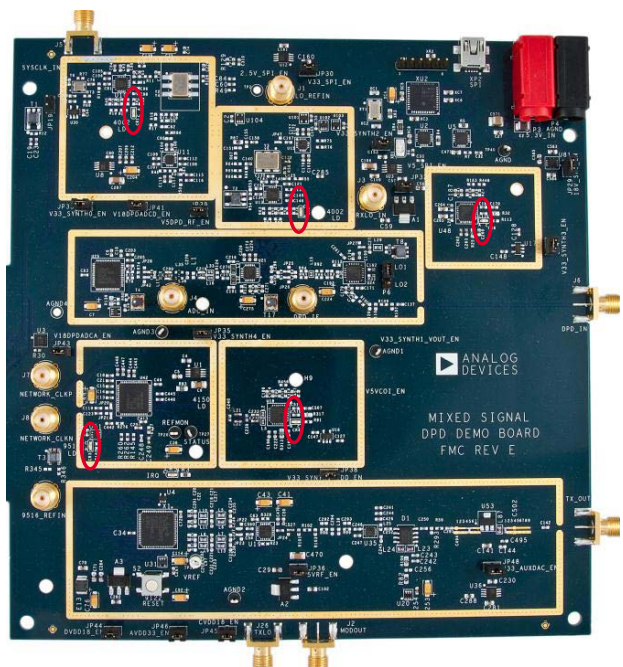

Figure 13. LEDs on MSDPD Board
4. At this point, observe the five LEDs (CR1 to CR4 and CR6) near each of the PLL chips lighting up, signifying that all PLLs are locked (see Figure 13).